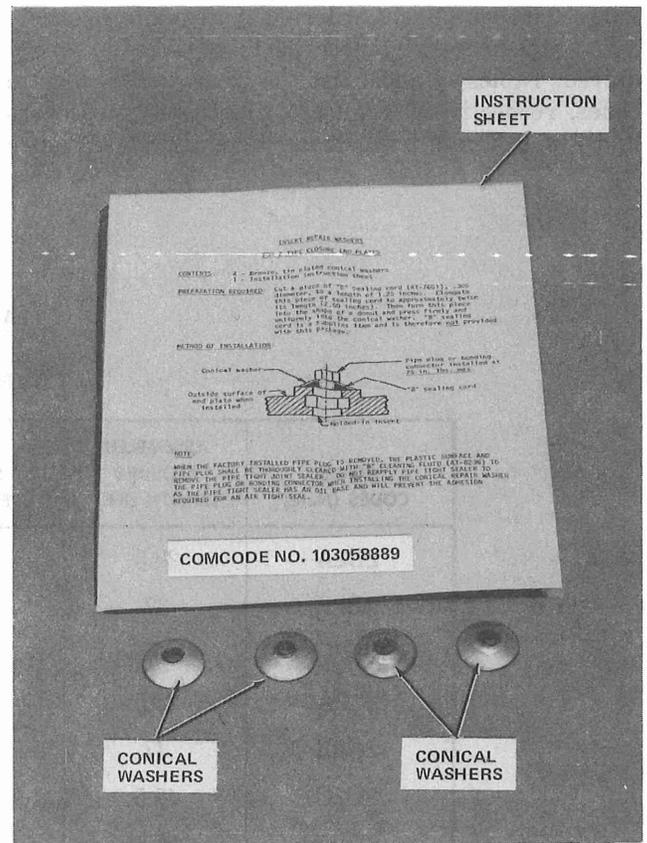

Fig. 3—Insert Repair Washer Kit D-180861
- (g) **Insert Repair Washer Kit D-180861 (Fig. 3):** Used to repair leaking insert on end plates.